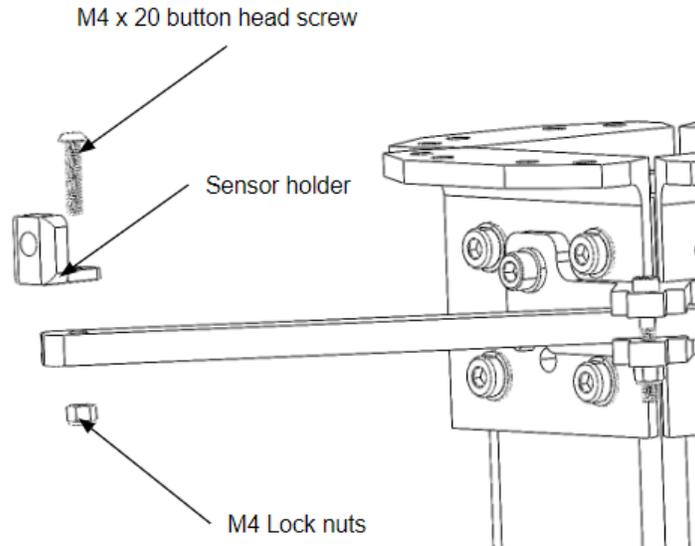

Fig. 11. Fiber sensor holder on the arm on the Flight Stand 60 / 150
Step 2. Insert the arm into the arm holder, and then add the sensor holder on the arm and then tighten it by using M4 x 20 button head screws and M4 Lock nuts, as shown in Fig. 11.